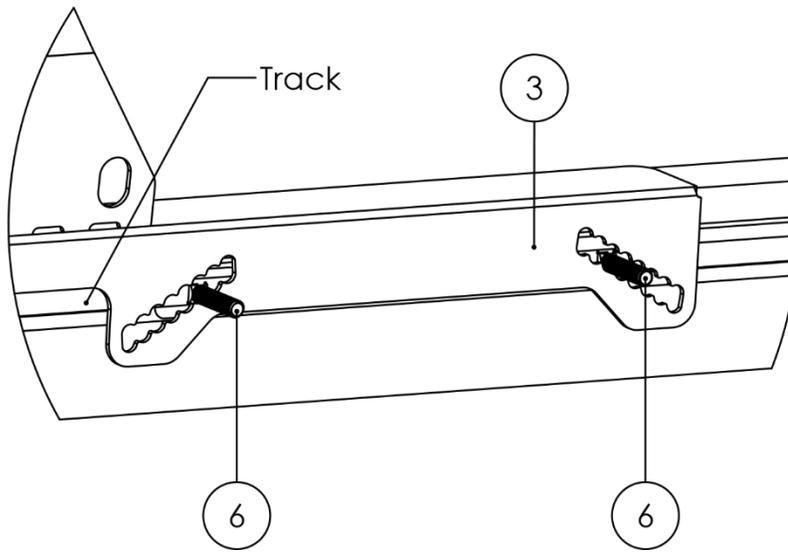
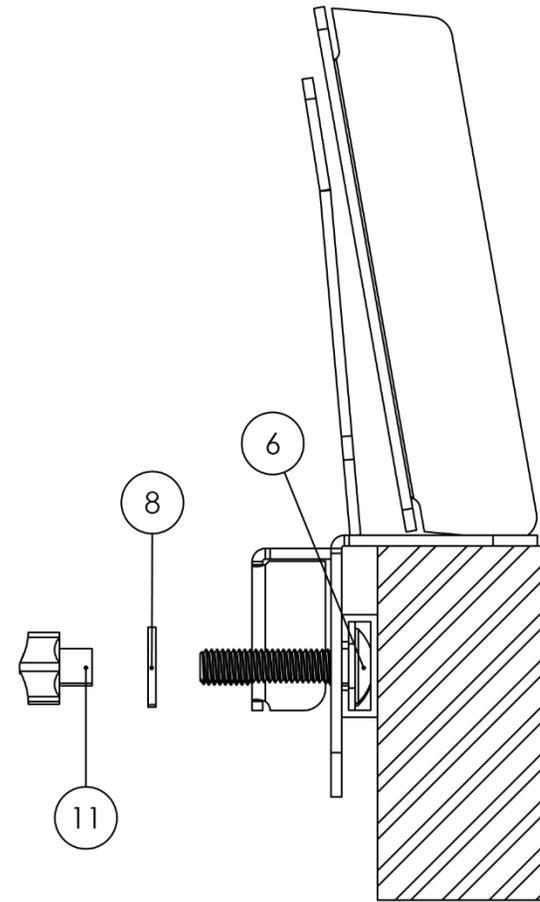

Figure 3
Figure 4
- 2. Install the base of the rack.** Begin the installation of the Base Rail Assy. (Item No 3) by placing (2) 1.75" Carriage Bolts (Item No. 6) within your truck's track system as shown in Figure 3. It is important that these Carriage Bolts project out into the Base and that you find a solution that firmly secures the rack. As shown in Figure 4, finish securing the base by using a Track Fastener (Item No. 11) and a Metal Washer (Item No. 8). **DON'T forget to apply a little grease to the screws before tightening or it may be hard to remove the nuts later.**